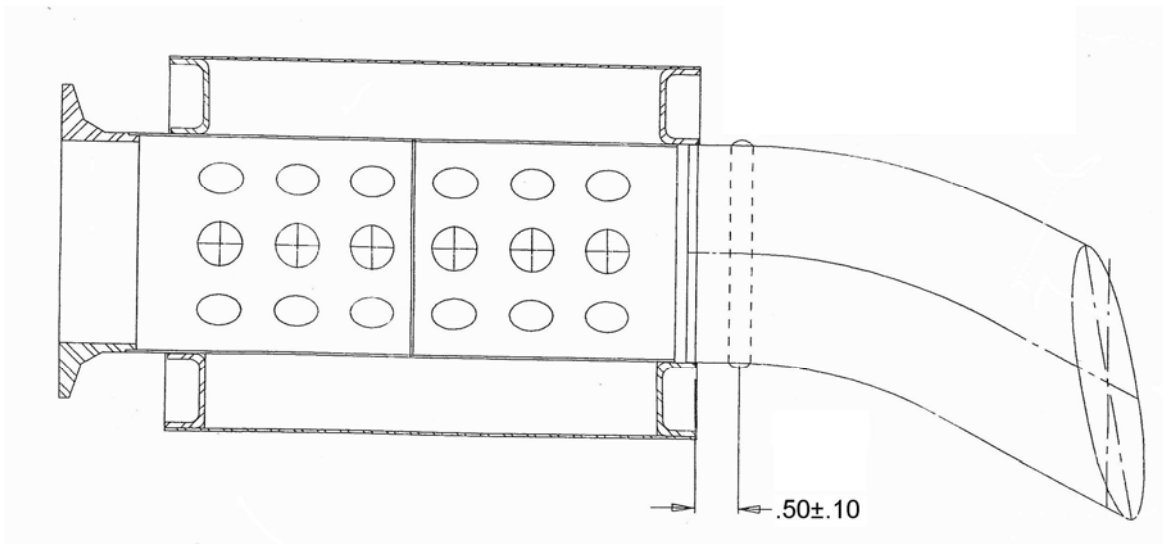

Figure 1: Muffler Modification
- a. Drill two holes, 0.25" diameter, 180 degrees apart, as shown in Figure 1, for the 0.25" diameter rod. (The radial location around the tailpipe tube is optional.)